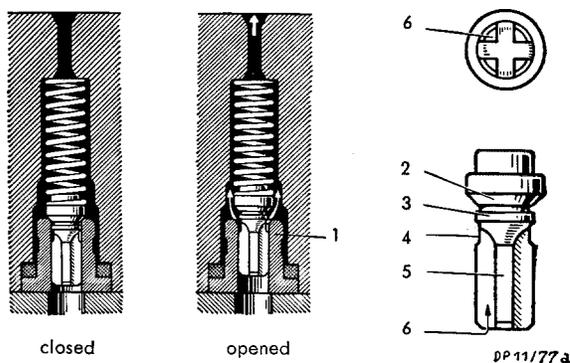

Figure 07-4/5
The suction space is filled with fuel constantly kept under a gauge pressure of 1 to 1.5 atm. by the feed pump. If the pump plunger is at the bottom dead center, the control port (6) is opened and the pressure space is filled with fuel. During the upward motion the plunger closes the control port (6) and presses the fuel through the pressure valve into the pressure line. The delivery begins (see Figure 07-4/4).
The delivery ends as soon as the upper control edge has reached the control port (6), because the pressure space is now connected with the suction space via the compensating hole (4) in the plunger (Figure 07-4/4) or at the former units via the longitudinal groove, thus bringing about an equalization of pressure.
As already mentioned, the discharge rate is varied by the turning of the plunger. Figure 07-4/4 clearly shows that the plunger opens the control port sooner or later during the discharge stroke depending on the respective turning position. The output is largest if the plunger is turned full clockwise, the output becomes smaller if the plunger is turned counter-clockwise. In order to reach the zero output position (stop position) the plunger must be turned fully counter-clockwise. In this position the upper control edge immediately opens the control port (6). Thus the pressure space (5) is continuously connected with the suction space (8) and there will therefore be no discharge (Figure 07-4/1). The feed begin of the injection pump is constant, excepting the injection pumps (e.g. Model RS 204) with pump plungers with additional upper ("double") control edge. The end of delivery, however, depends on the discharge rate and/or the turning position of the plunger.
The pressure valve has the task of closing the top of the pressure space and relieving the pressure line. Relieving of the pressure line is necessary to allow a fast closing of the nozzle needle and to prevent dribbling of fuel into the combustion chamber. This is simply and safely achieved by the special design of the pressure valve, as can be seen in Figure 07-4/5.